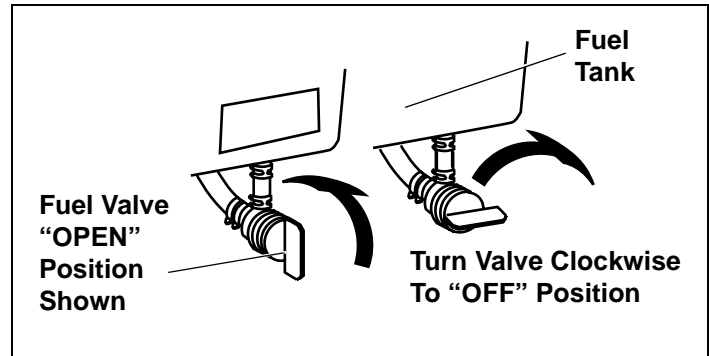

Figure 11. Fuel Valve Positions
6. Be sure fuel valve, if present (see equipment manufacturer's instructions) is open. See Figure 11.